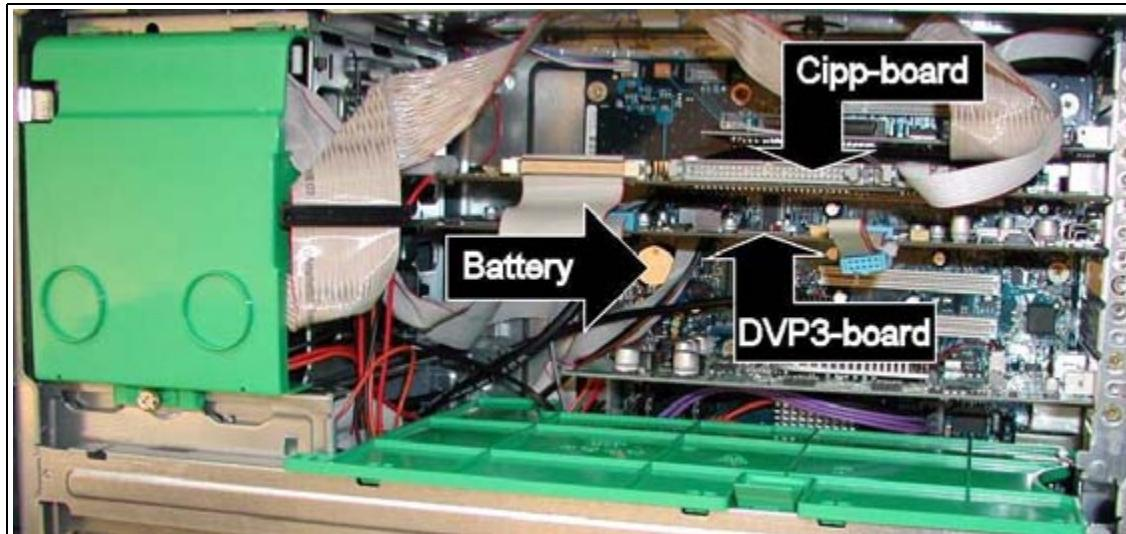
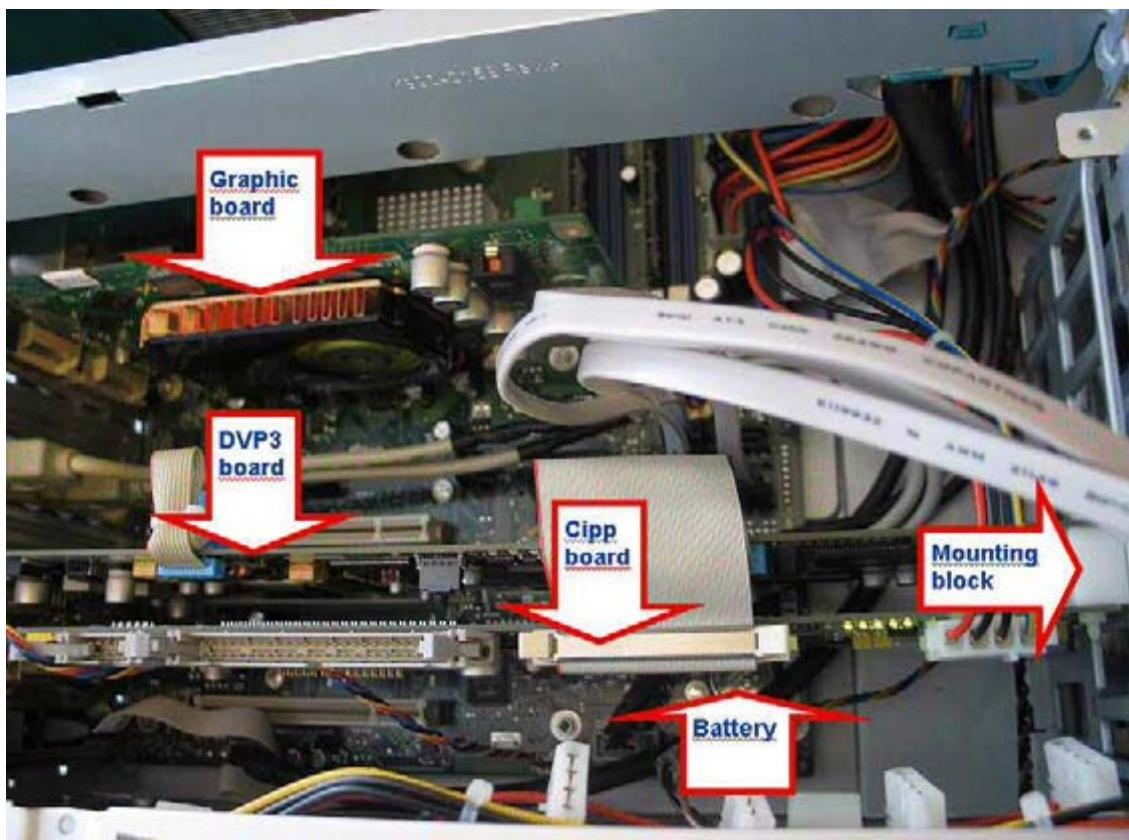

Fig. 54: Replacing the lithium battery\_1
Fig. 55: Components M450\_
4. Remove the battery M420/ M430 (Fig. 54 / p. 99) or M450 (Fig. 55 / p. 100) and follow the "Disposal Instructions" for disposing of the old battery.
Work steps 1 through 6 are only necessary for a long design of a PCI board (e.g. CIPP board) (see (Fig. 54 / p. 99))
- 3. Replace the DVP3 board (Fig. 54 / p. 99) according to (Replacing a PCI board PC M420 and M430 \(e. g. CIPP board\) / p. 103).